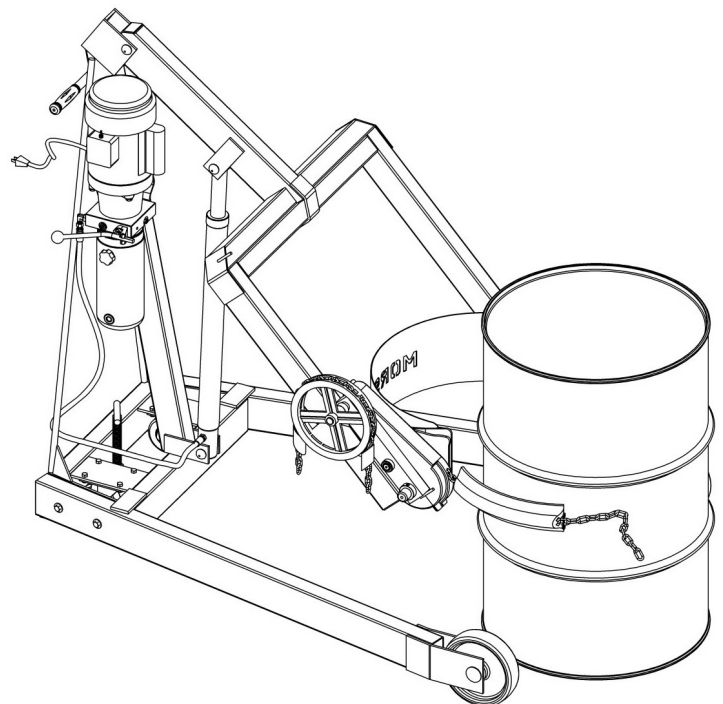

Figure 3.1
The screw-down floor lock is located on the base of the tower (figure 3.1). Turning the floor lock clockwise until it locks in the down position activates the floor lock. When the floor lock is activated it prevents unwanted free wheeling of the unit. Floor conditions determine the effectiveness of the floor lock. The operator should verify its holding action before depending on it to hold.
- 2.) Using "LIFT" control as described in "Machine Description - Controls", position drum holder assembly with back band at middle of drum (Figure 3.1). With ratchet plate swung open and cinch chain hanging from chain hook, push unit until back band rests firmly against drum. Some adjustment to tilt angle of saddle may be necessary to ensure band fits flush on drum.